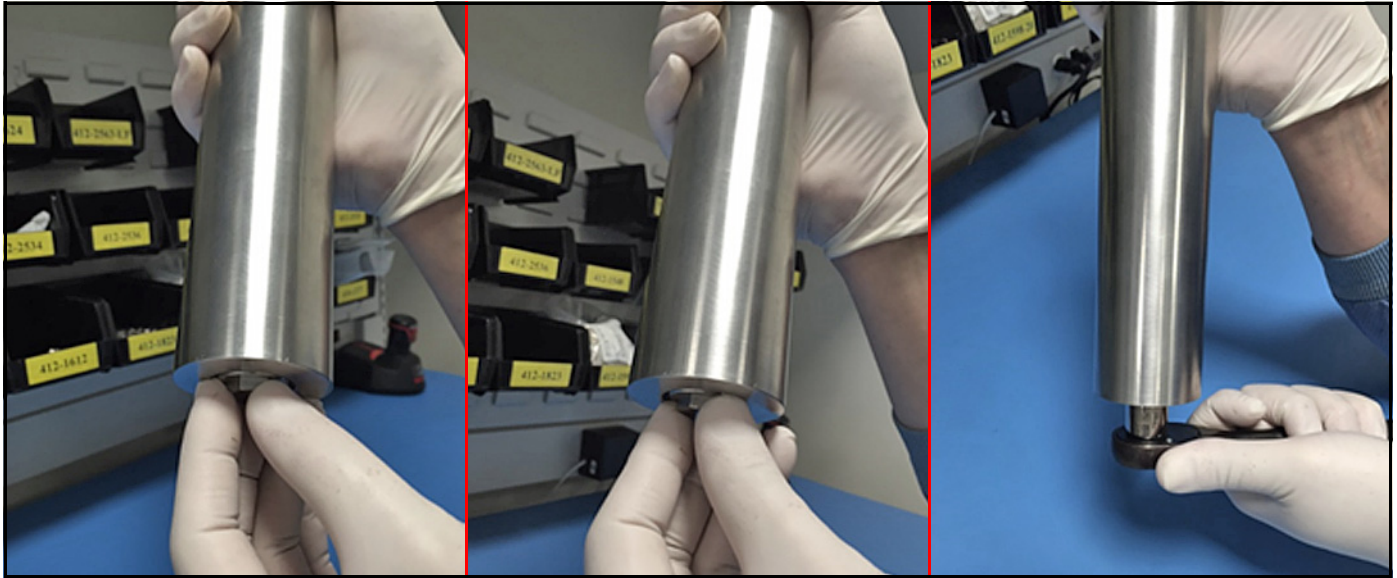

Figure 97: Replacing Mirror End Cap Assembly into the Absorption Cell
13. Using tweezers, insert the mirror into the hole on top of the shim, with the gold-plated side facing up. Thread the end cap into the bottom of the absorption cell tube. Secure the threaded end cap in place with a 5/8" socket wrench (see Figure 97 below).